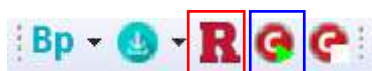

Figure 20: Enable Cola and Reset (See Toolbar)
10. Now enable Cola (marked blue in Figure 20) and then Reset (marked red in Figure 20) the board.